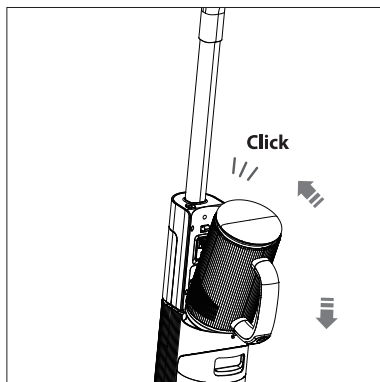

Fig. 28 – Inserting the motor unit
- ▶ Carefully press the motor unit into the appliance until you hear it click into place (see Fig. 28).